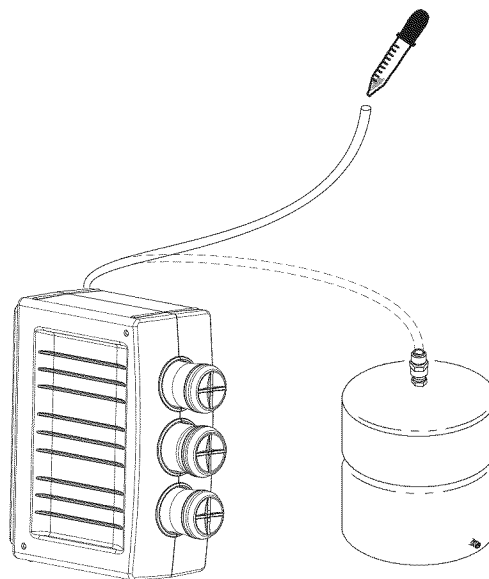

Figure 22
Complete the following steps to sanitize the system. See Figure 22.
4. Add 3 ml. of bleach into open end of yellow tank tubing. Handle bleach according to bleach manufacturer's recommendations. See Figure 22.